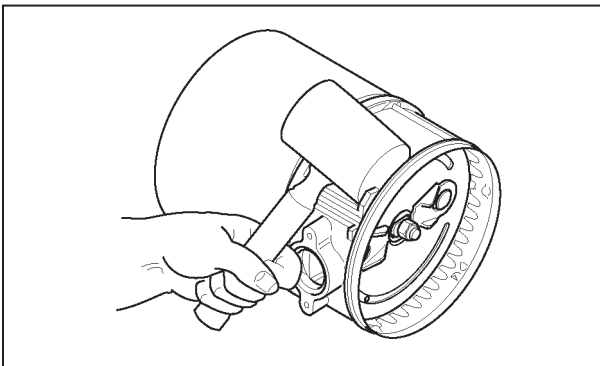

Figure 4.8
8. Place disposer on its side. Lightly tap upper end bell ridge with rawhide mallet until upper end bell begins to separate from stator (see Figure 4.8).